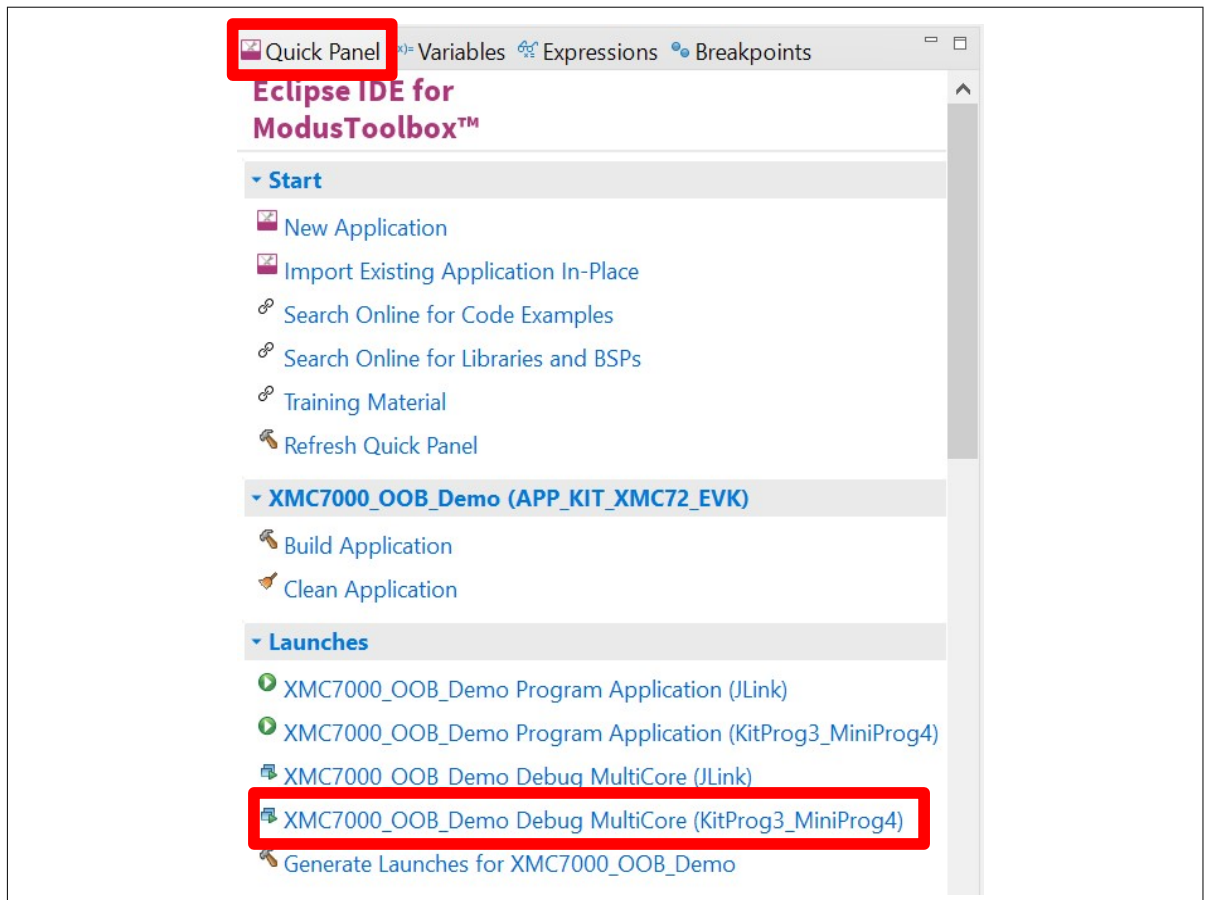

Figure 13 Debugging in the ModusToolbox™ software
5. ModusToolbox™ software has an integrated debugger. To debug a XMC7200D application, in the Project Explorer, select **<App_Name>** project. In the Quick Panel, scroll to the **Launches** section and click the **<App_Name> Debug (KitProg3_MiniProg4)** configuration as shown in Figure 13. For more details, see the “Program and debug” section in the Eclipse IDE for ModusToolbox™ user guide